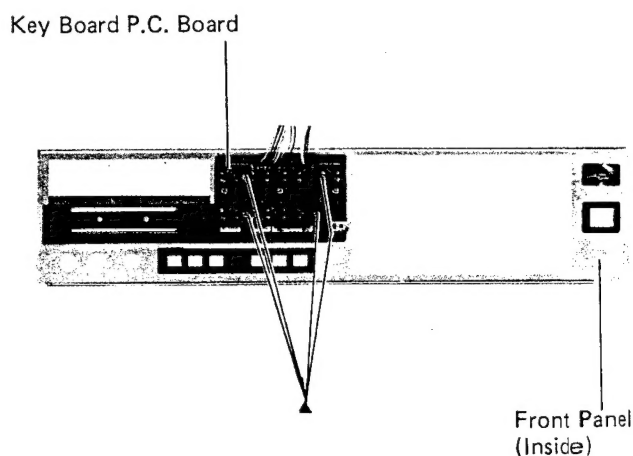

Figure 8
- (1) Remove four screws marked "▲" from the key board P.C. Board as shown in Figure 8.
- (2) Disconnect all wires from the key board P.C. Board.